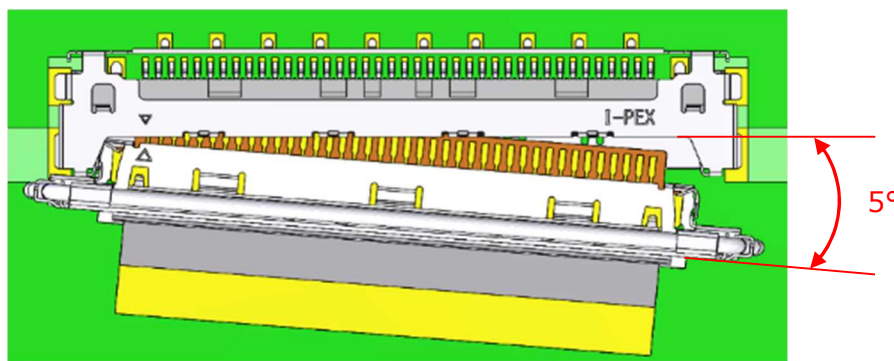
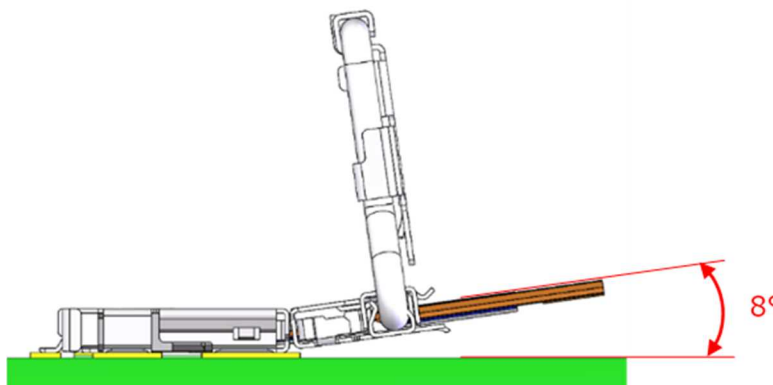

Fig. 4
Fig. 5
- ② The horizontal insertion angle should be within 5° (Fig. 4), and the vertical insertion angle should be within 8° (Fig. 5). Temporarily insert without applying an excessive load in the insertion direction until the PLUG is straight with respect to the connector.